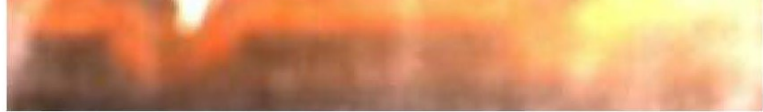
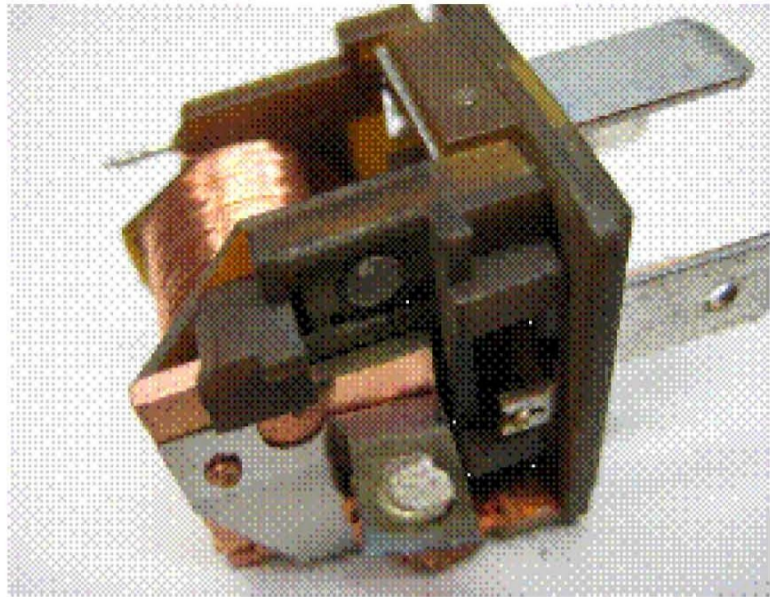

Figure 1. Strong erosion of both contacts.
Figure 2. Strong erosion of both contacts.
A) Strong erosion of both contacts (Figure 1, Figure 2).